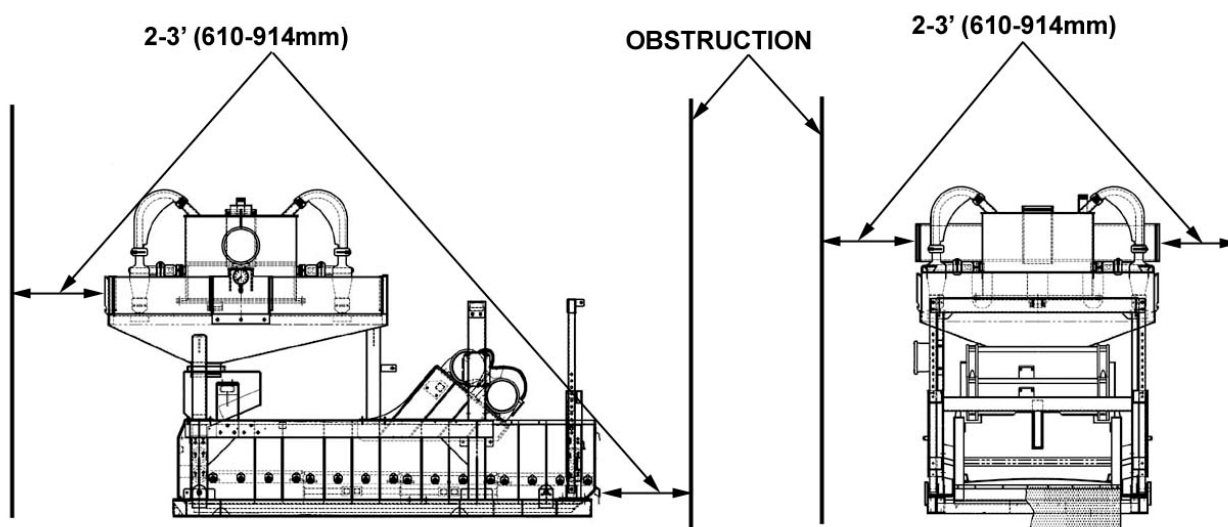

Figure 3-1 Recommended Clearances - HI-G Dryer
1. Provide adequate clearances on all four sides of machine and/or multi-machine installations. Figure 3-1 shows minimum clearances on all sides of machine.